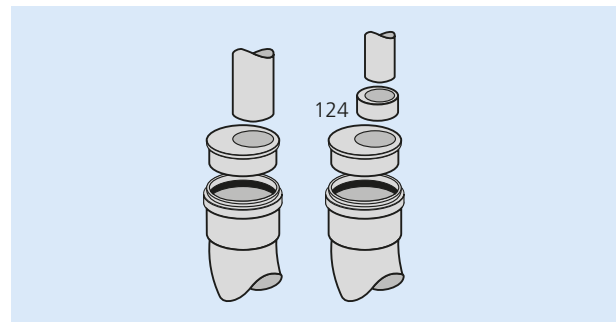

Fig. 26
- **82mm Soil Pipe to 110mm Underground Pipe** (Fig. 26)